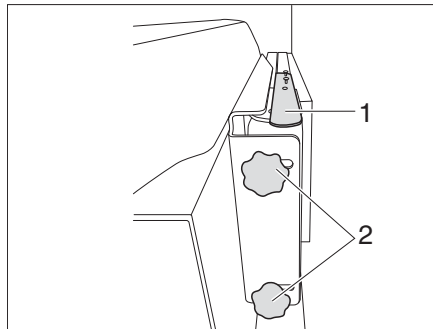

Fig. 123 Holder with jointed arm (variant 1)
- Press the lever (Fig. 123,1) downwards to release the flat screen from the latch. Release the lever.
- Undo the 2 knurled screws (Fig. 123,2) and swivel the flat screen into the desired position. Retighten the knurled screws (Fig. 123,2).